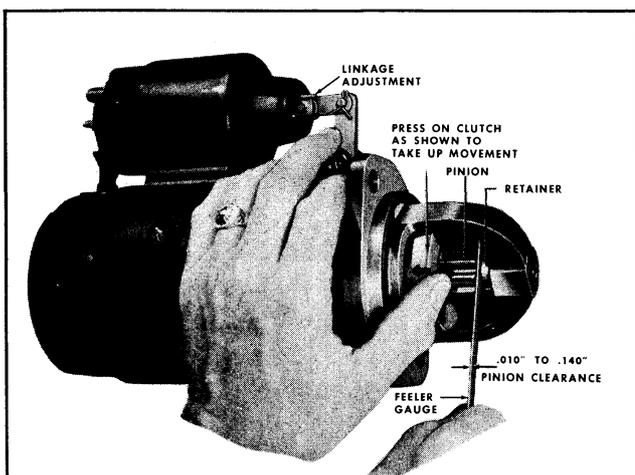

Fig. 13-33 Checking Pinion Clearance
**CAUTION:** Do not connect the voltage source to the ignition coil terminal of the solenoid. Do not use a 12-volt battery instead of the 4 volts specified, as this will cause the motor to operate. As a further precaution to prevent motoring, connect a heavy jumper lead from solenoid motor terminal to ground. Push the solenoid plunger into the solenoid by hand. Once in, battery current will hold it in place. Push the pinion back as far as possible to take up any movement, and check the clearance with a feeler gauge. (See Fig. 13-33) Adjust pinion clearance by loosening the screw in the plunger linkage and shortening or lengthening the linkage as required. Retighten the screw securely when adjustment is correct.